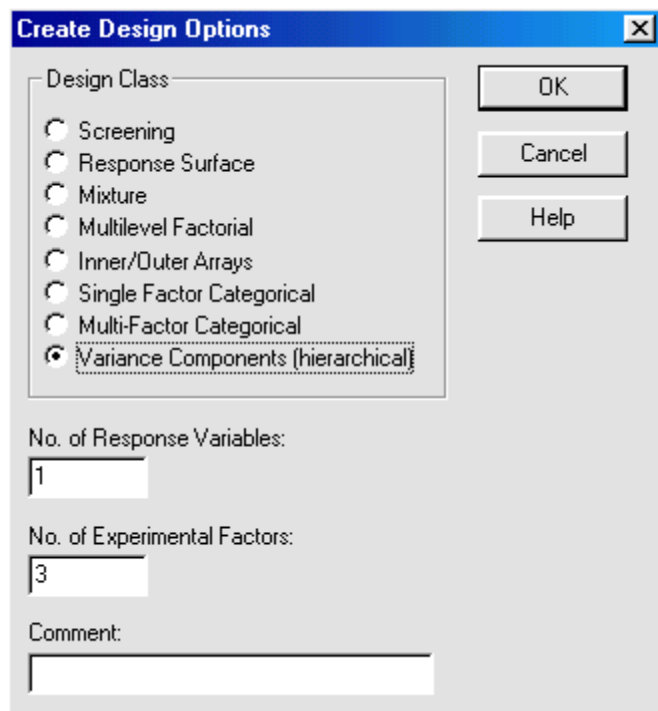

Figure 10-1. Create Design Options Dialog Box
1. Choose **SPECIAL... EXPERIMENTAL DESIGNS... CREATE DESIGN...** from the Menu bar to display the Create Design Options dialog box shown in Figure 10-1.